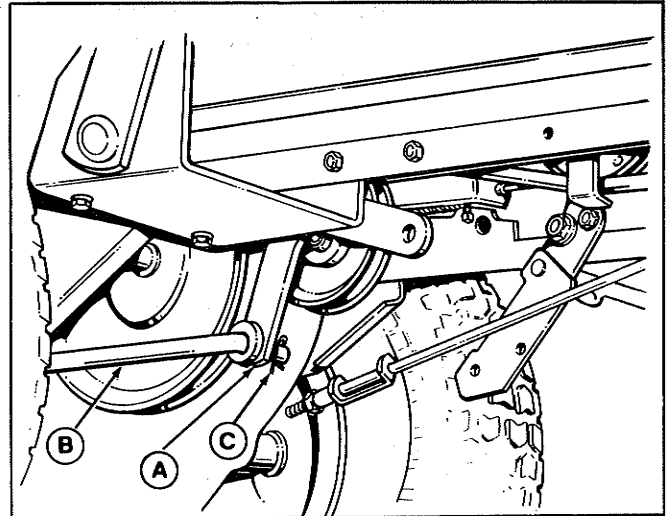

Figure 3. Lift Lever
4. Attach the lift rod to the tractor lift lever with spring clip. See figure 3.